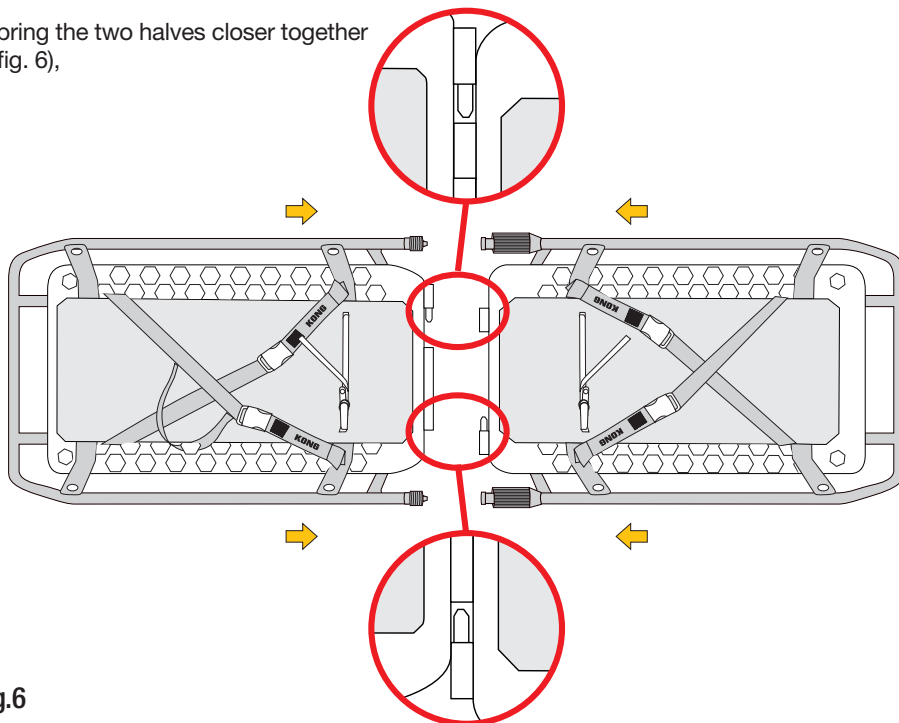

Fig.6
- a) bring the two halves closer together (fig. 6),